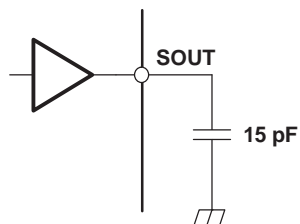

Figure 4. Test Circuit for  $t_{r0}$ ,  $t_{f0}$ ,  $t_{d0}$ ,  $t_{d1}$
- (1) See Figure 4 . Defined as from 10% to 90%
- (3) See Figure 4 . Figure 10